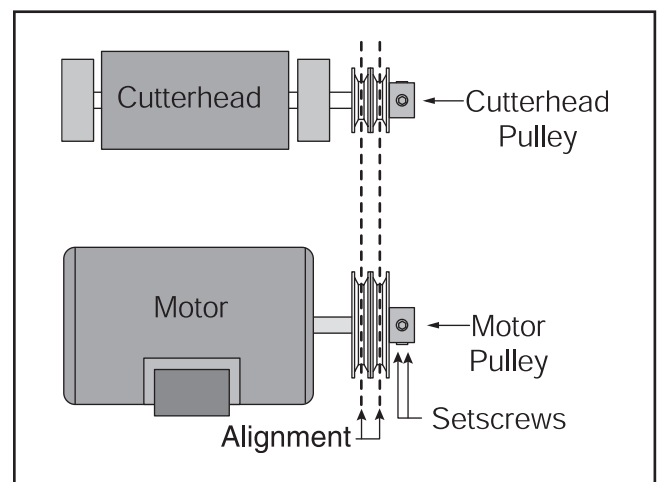

Figure 6. The pulleys should be aligned so the V-belts are straight up and down.
5. Visually check the alignment of the two pulleys (**Figure 6**) to make sure that they are aligned and that the V-belts are straight up and down between the pulleys.